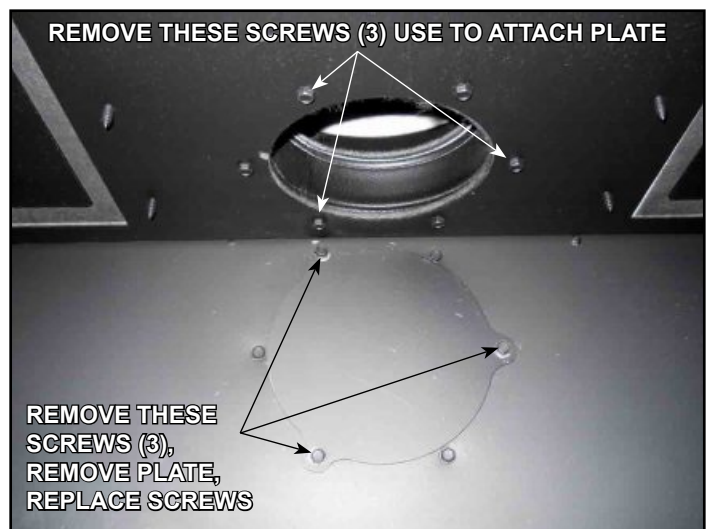

Figure 6.14
18. On inside of firebox, remove plate and gasket on rear of firebox by removing three screws as shown in Figure 6.14. Discard gasket. Replace screws on rear of firebox. Remove three screws as shown in Figure 6.14. Attach plate and new gasket, included in kit, with three screws.